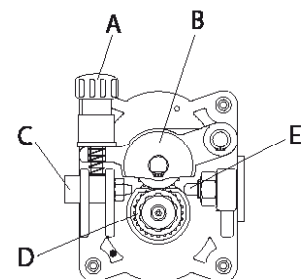

FIG. 6
- Loosen and lower the plastic knob (A) (Fig.6). Open the pressure arm (B) of the feeder. Extract the wire from the torch liner (E).
- When the wire is disconnected, grasp it with pliers so that it cannot exit from the spool. If necessary, straighten it before inserting it in the wire input guide (C). Insert the wire on the lower roll (D) and in the torch liner (E).
- Lower the pressure arm (B) and place the knob (A). Tighten slightly. If tightened too much, the wire gets locked and could cause motor damage. If not tighten enough, the rolls will not feed the wire.
- Open the side panel. Loosen and lower the plastic knob (A) and release the pressure arm (B) (Fig. 6). Cut the wire (in the case it is installed) grasp it with pliers so that it cannot exit from the spool and fix it on the suitable hole in the reel. Remove the nozzle and contact tip. Remove with pliers the wire from the hose and torch assembly.